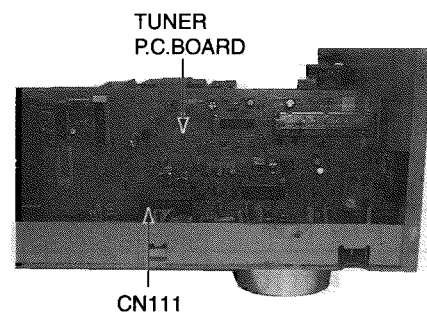

Fig.5
(4) Remove TUNER P.C.Board (See Fig.5)